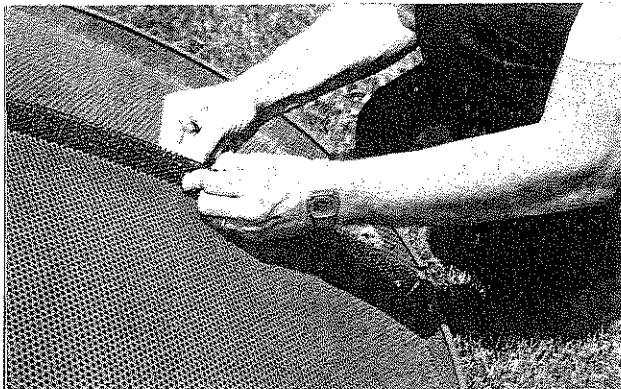

FIGURE 2
STEP 2. Insert 4#10x5/8" bolts in outer holes in rib. Use flat washers on each side of rib. Tighten two bolts, making sure front surface of reflector is smooth at rib joint while tightening. See hardware detail. See Figures 2 & 3.